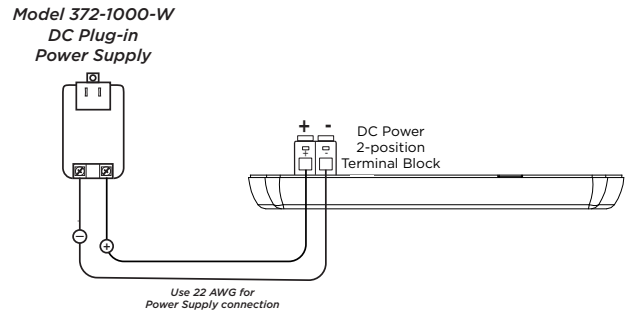

Figure 2: 1114 Wireless Expander Side View
2. Connect the DC terminal (-) to the negative terminal on the power supply. See Figure 2.